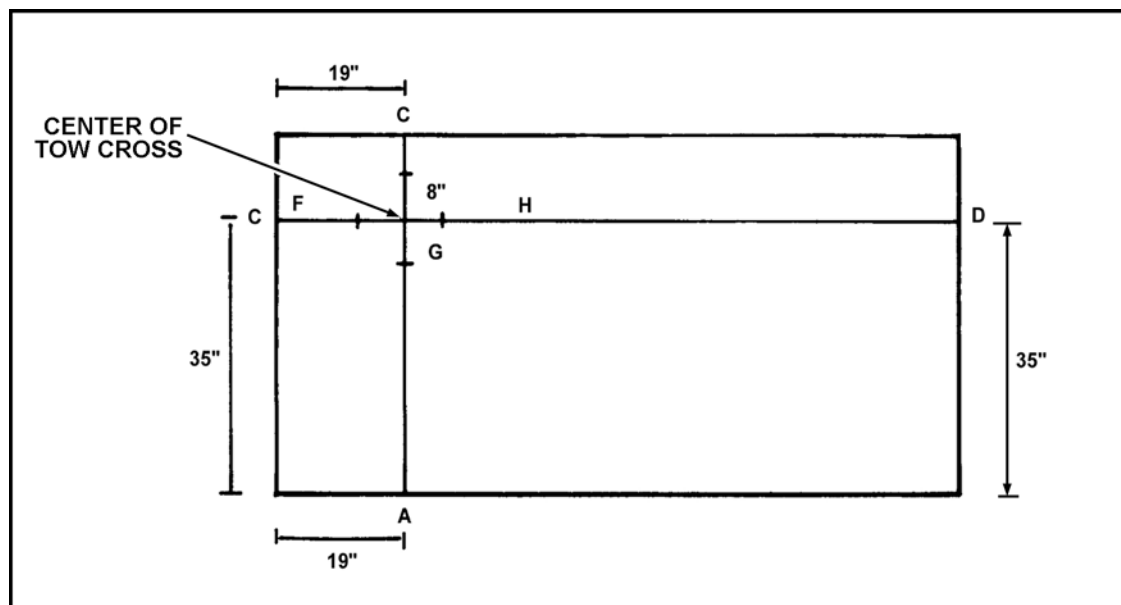

Figure B-57. Position of TOW cross.
- (1) Sand the front, back, and edge of the plywood to remove dirt and grease.
- (2) Mark the words "LOW, LEFT" on the lower left-hand corner of the panel.
- (3) To mark the TOW cross, use a pencil and the 8-foot long straightedge (Figure B-57, page B-44).
- (d) Mark (C) 35 inches up from the bottom edge of panel (along 8-foot side).
- (e) Mark (D) 35 inches up from the lower right edge of the panel at "D."
- (4) Mark the ISU, AUX, 25-MM, and COAX crosses as follows: